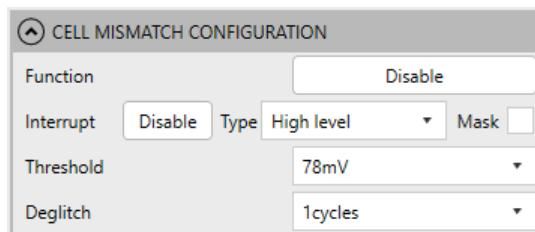

Figure 26: Cell Mismatch Configuration
18. Figure 26 shows the Cell Mismatch Configuration settings in the GUI.